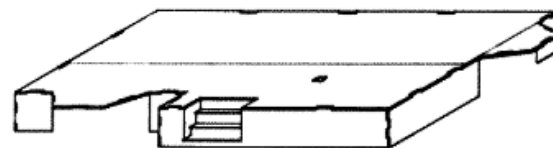
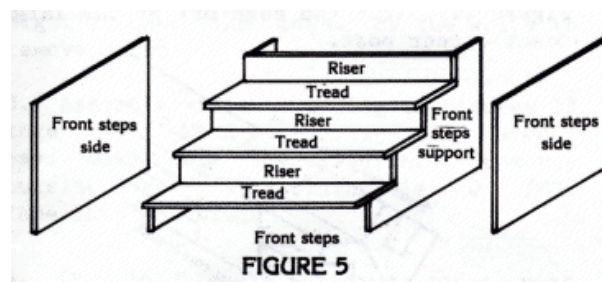

FIGURE 4
FIGURE 5
3. Glue the base floor onto the base walls as in Figure 4.
5. Locate the front step treads, risers, walls and supports (Sheet HR-4). Assemble as in Figure 5. Glue in place as in Figure 4.